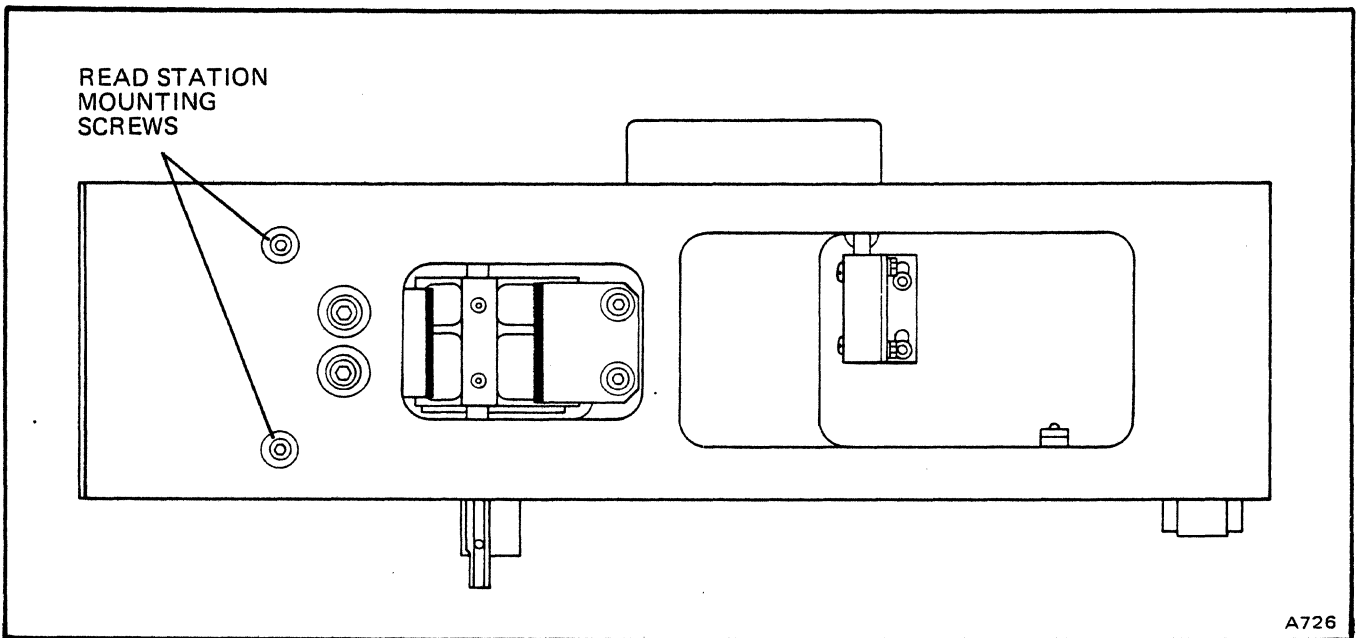

Figure 4-40. Removal of Read Station Assembly
- b. Remove two read station mounting screws in pick support casting (Figure 4-40).